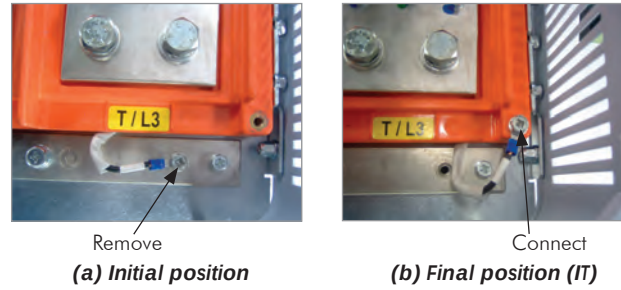
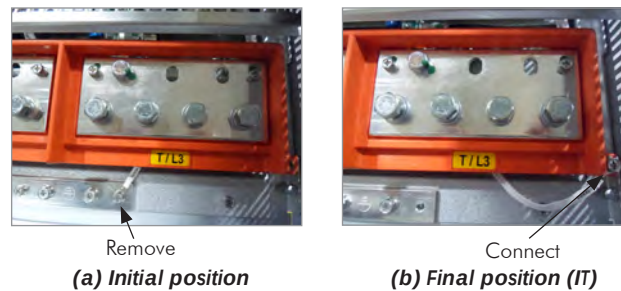
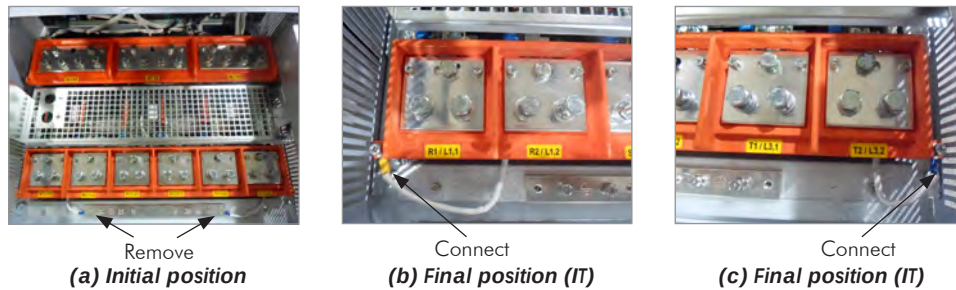

Figure 3.28 - (a) and (b) - Ground connections - location and procedure for adapting to IT or corner-ground networks - frame sizes F and G
Figure 3.29 - (a) and (b) - Ground connections - location and procedure for adapting to IT or corner-ground networks - frame size H models 584 A and 625 A
Figure 3.30 - (a) to (c) - Ground connections - location and procedure for adapting to IT or corner-ground networks - frame size H models 784 A and 804 A
- ☑ Frame sizes F, G and H: disconnect the cable with the ring tongue lug from the ground busbar and connect it to the isolated point on the power terminal block as shown in the Figure 3.28 on page 3-37, Figure 3.29 on page 3-37 and Figure 3.30 on page 3-37.